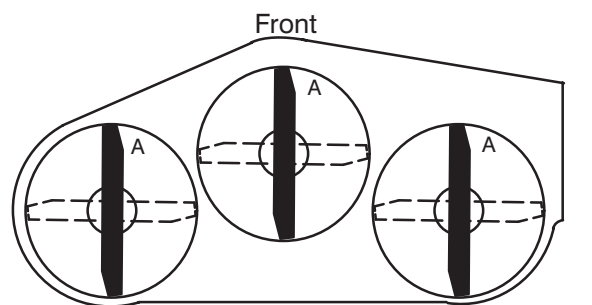
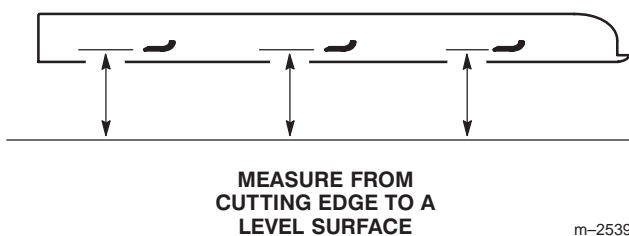

Figure 41
Figure 42
1. Rotate the blades until the ends face forward and backward (Fig. 41). Measure from a level surface to the cutting edge, position "A", of the blades (Fig. 42). Note this dimension.